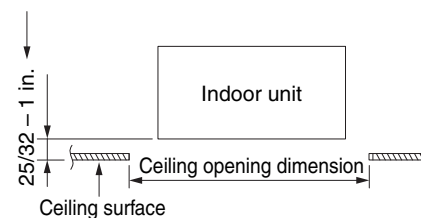

Fig. 3-70
- (2) Check that the positions of the ceiling surface and indoor unit are as shown in Fig. 3-70. If the positions of the ceiling surface and indoor unit are not correct, problems such as air leakage, water leakage, and flap operation trouble may occur.